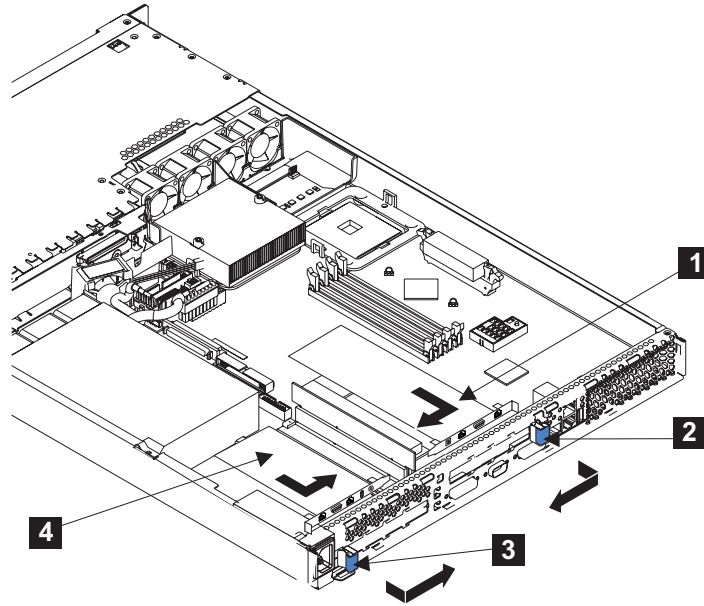

Figure 117. The SAN Volume Controller 2145-4F2 with its adapters installed
3. Pivot the expansion-slot clip (**2** or **3** in Figure 117) toward the adapter and press it into place.